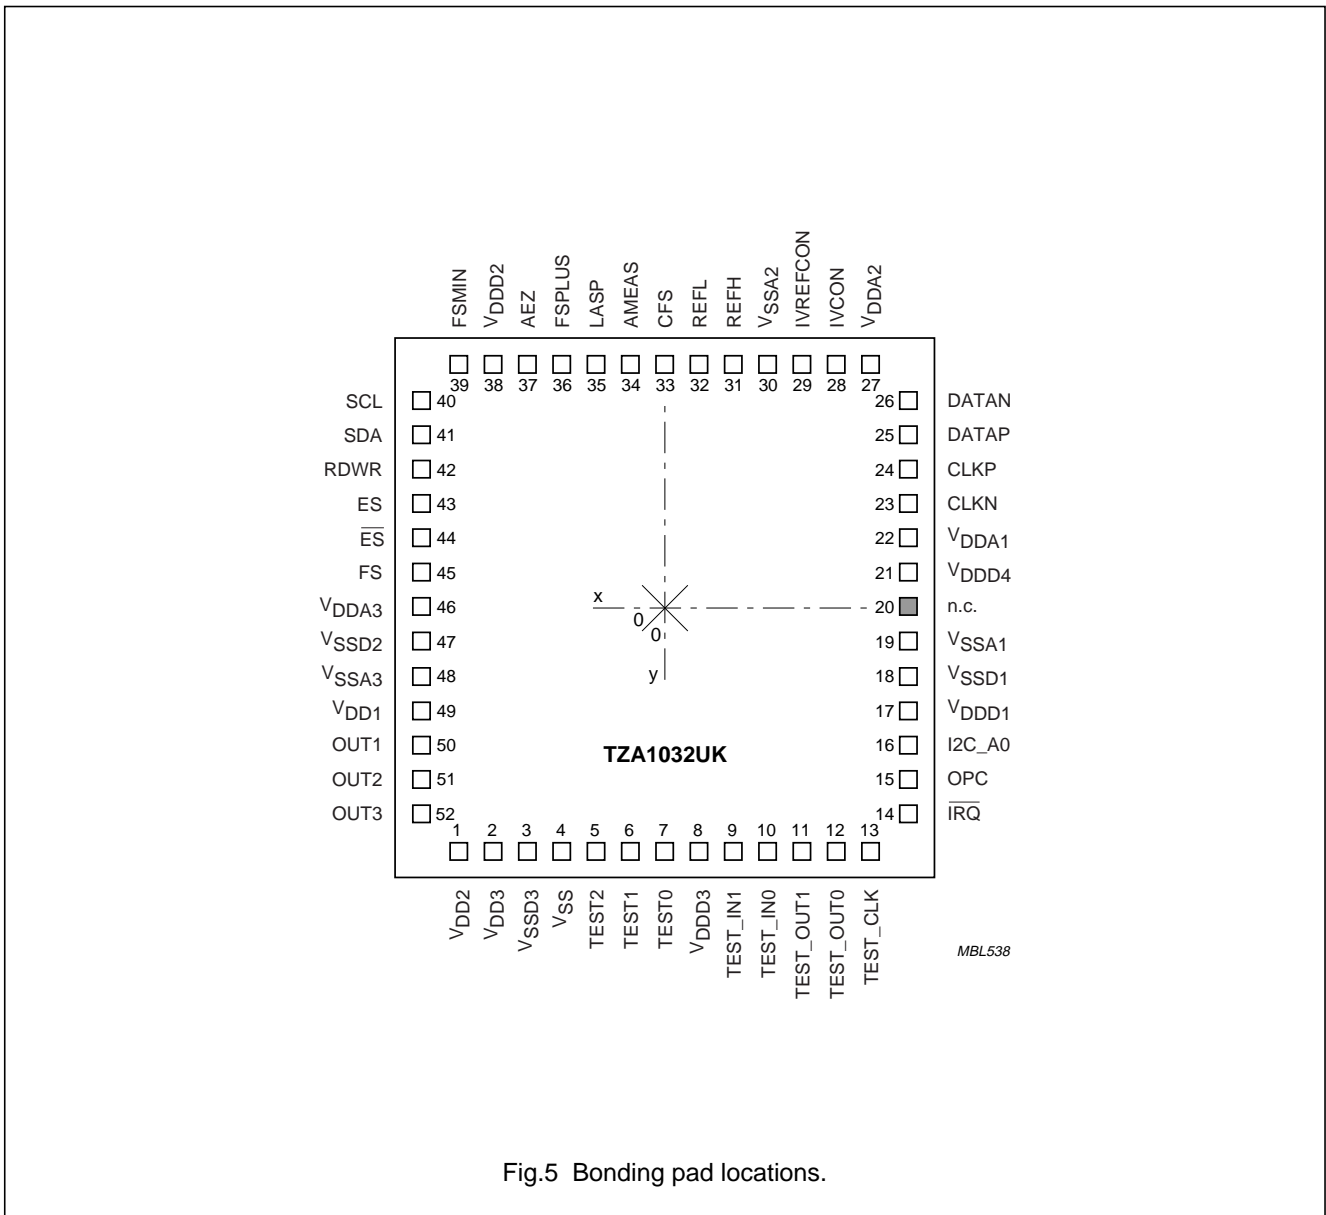

Fig.5 Bonding pad locations.
1. All x and y coordinates represent the position of the centre of the pad in mm with respect to the centre of the die (see Fig.5).